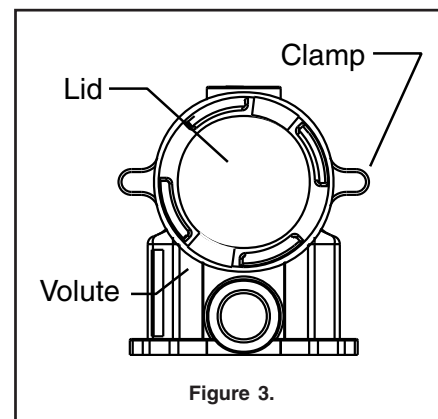

Figure 3.
- a. Make sure the lid O-ring is properly placed. Seat the clamp and lid then turn clockwise until the handles are perpendicular to the inlet/outlet ports; see Figure 3.